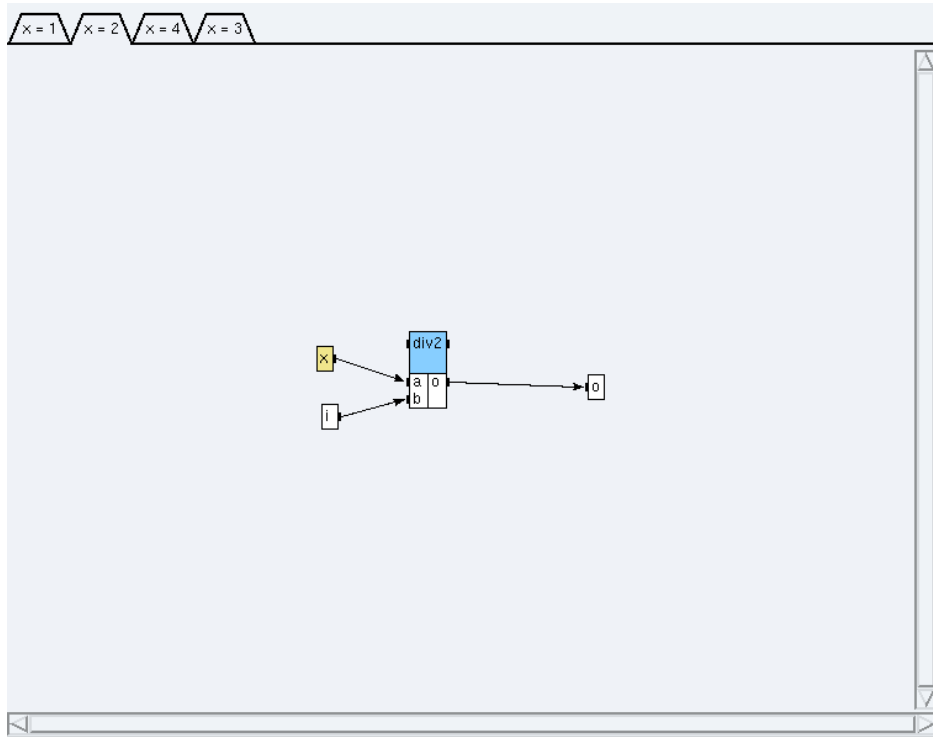

Figure 5.3: Condition x=2
- \* click on the condition **x=2** (*cf.* figure 5.3) and create a reference `div2<1>` to the definition `int/Arit_div`,